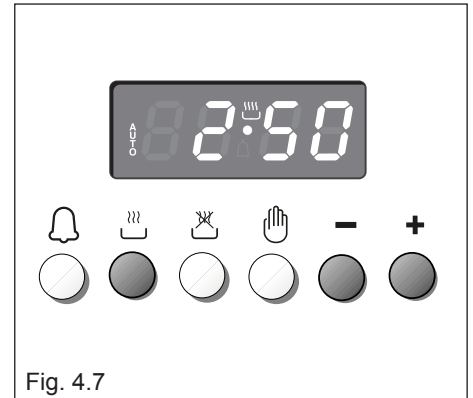

Fig. 4.7
1. Set the length of the cooking time by pushing the  button and the  button to advance, or  to go backwards if you have passed the desired time (fig. 4.7).